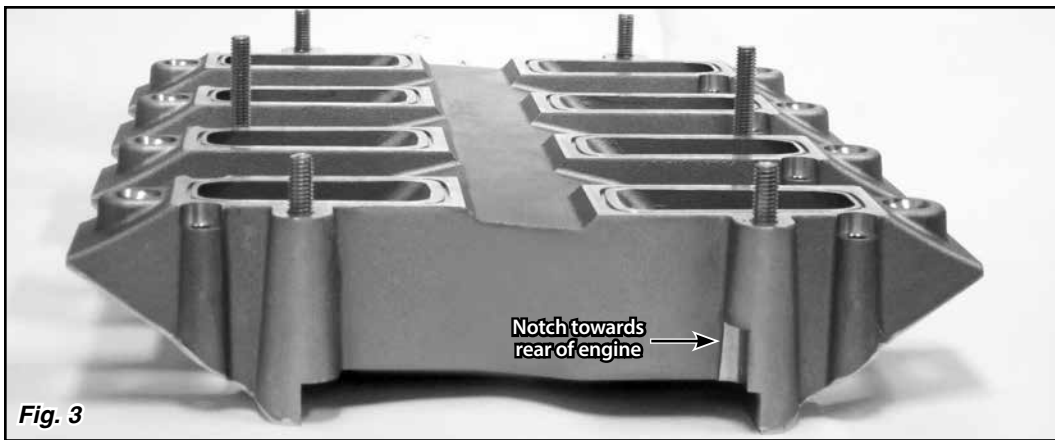

Fig. 3
Install the lower manifold without the O-rings, with the notch in **Fig. 3** to the rear of the engine. Make sure that the lifter valley plate does not interfere and prevent the lower manifold from sitting flat against the cylinder heads (or Intake Adapters, if applicable).
Step 2: Place the lower manifold on the cylinder head (or Intake Adapter) mounting surfaces, with the notch in **Fig. 3** to the rear of the engine. Take extra care to make sure that all of the O-rings remain installed in the grooves.